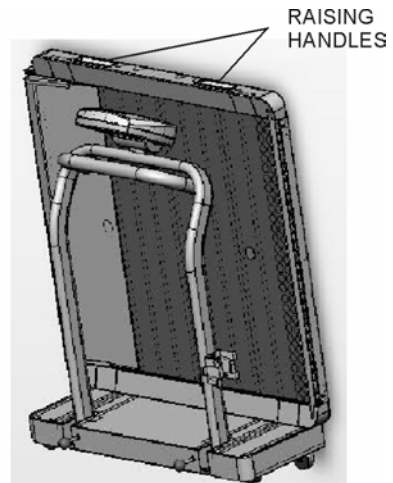

Figure 4b
1. Begin with the scale in the folded upright position resting on its wheels, as in Figure 4b.